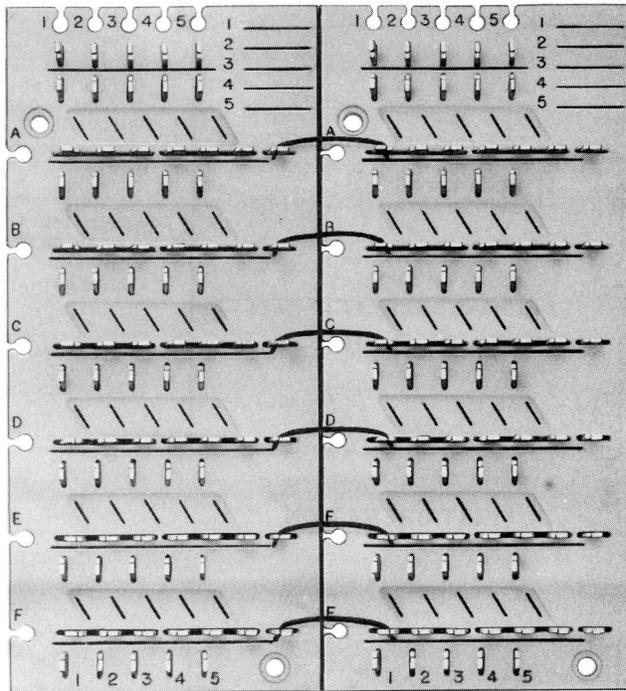

Fig. 3—Modular Array (Multiplied Horizontally)
right side (clip) serves as a multiplying point for extending the horizontal capacity (Fig. 3, 4, and 5).
3.01 The 1A1 Matrix Block should be mounted on a flat surface, using mounting holes provided. Where extended capacity beyond one block is necessary, modular arrays (Fig. 3, 4, and 5) may be employed. Respectively, these offer the following additional capacities: